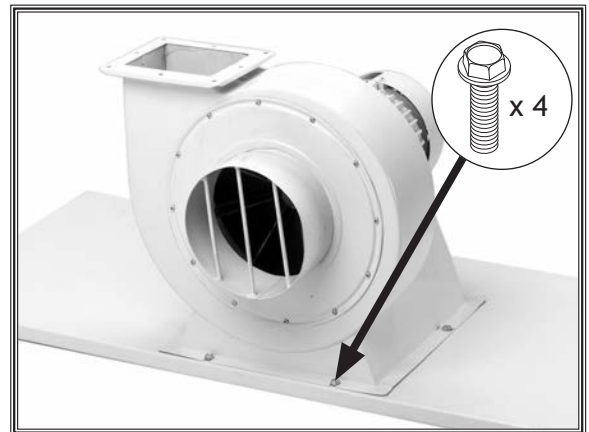

Figure 7. Installing motor and impeller to base.
3. Turn the base over, align the motor and impeller with the mounting holes, then secure the assembly with (4) $\frac{5}{16}$ "-8 x $\frac{1}{2}$ " flange bolts, as shown in **Figure 7**. The intake portion should be near the edge.